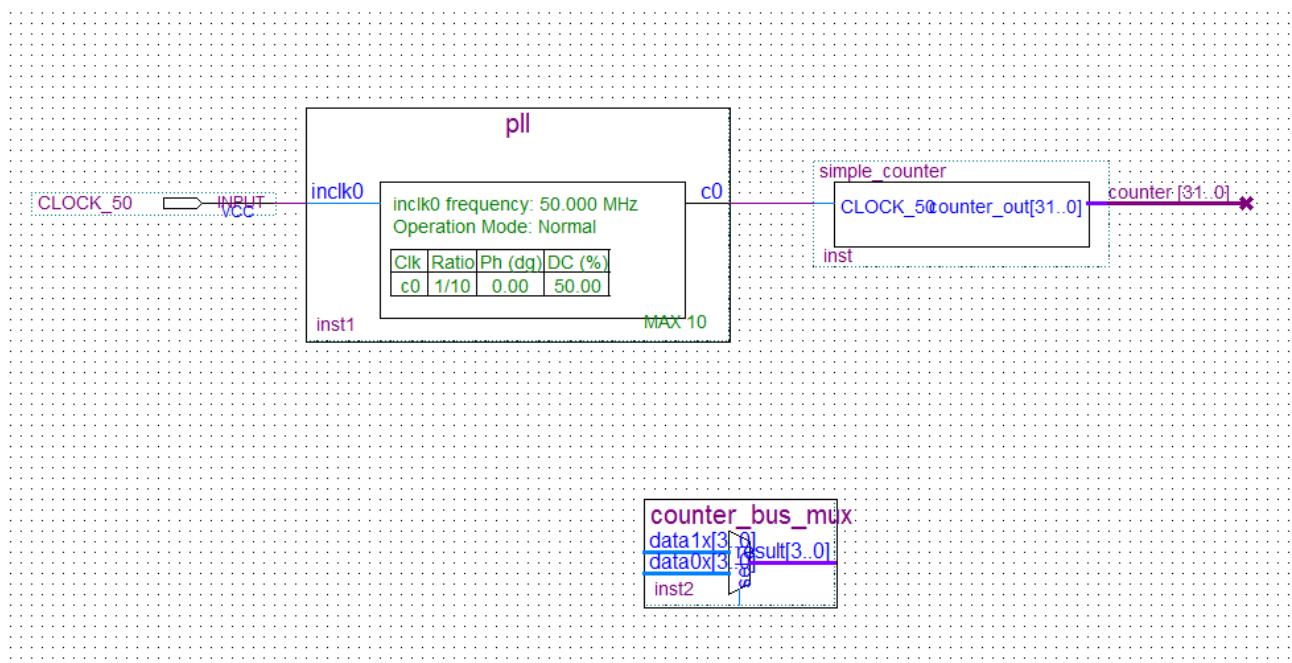

Figure 3-24 Place the lpm_mux symbol
12. Place the counter_bus_mux symbol below the existing symbols on the BDF. See **Figure 3-24**.